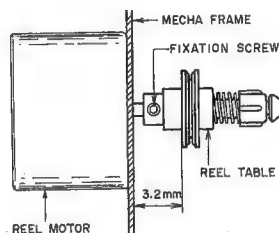

Fig. 5
2. REEL TABLE INSTALLATION POSITION ADJUSTMENT (Refer to Fig. 5)
Adjust until a clearance of approximately 3.2 mm is obtained between the mecha frame and the lower side of the reel table's pulley as shown in Fig. 5. Then, tighten the fixation screw firmly.